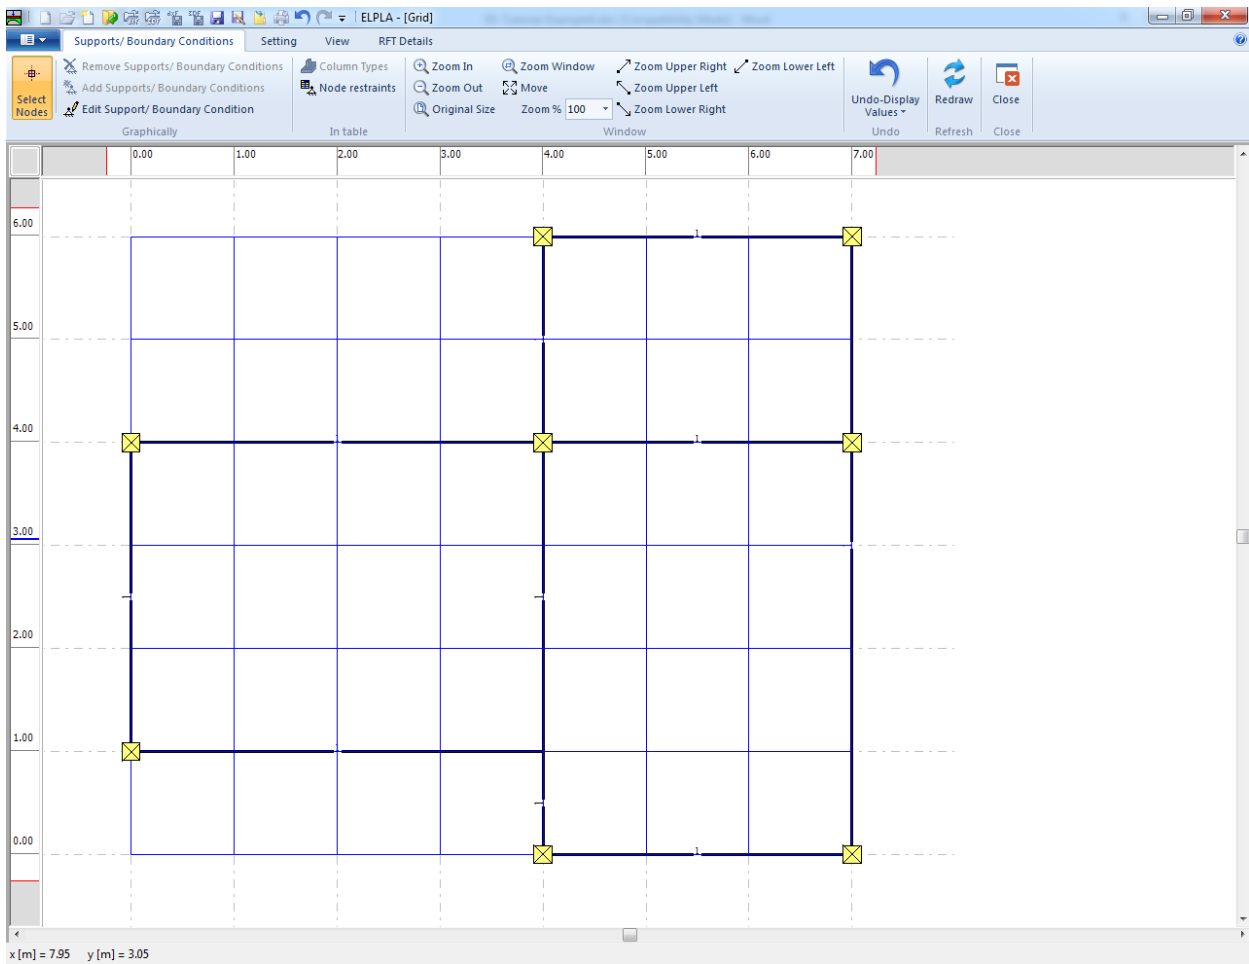

Figure 4.23 Supports
ELPLA can calculate the punching stresses due to column reactions. In this example, data corresponding to column dimensions are not required. Therefore, the user can take these data from the default column dimensions and consider all supports have column type 1. After you have completed the definition of supports, the screen should look like the following Figure 4.23.
- Choose "Save" command from "File" menu in Figure 4.23 to save the data of supports
- Choose "Close" command from "File" menu in Figure 4.23 to close the "Supports/ Boundary Conditions" Window and return to the main Window.